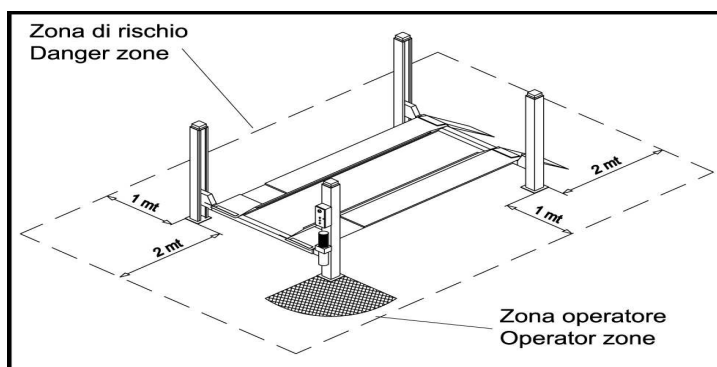

Fig 19
During lift functioning, the operator must remain in the control 'zone' as defined in figure 19. The presence of persons beneath the cross-pieces and/or the platforms when they are moving, or the presence of persons inside the danger zone indicated in figure 19 is strictly prohibited.
- do not enter the danger zone while vehicles are being lifted (see Fig.19),